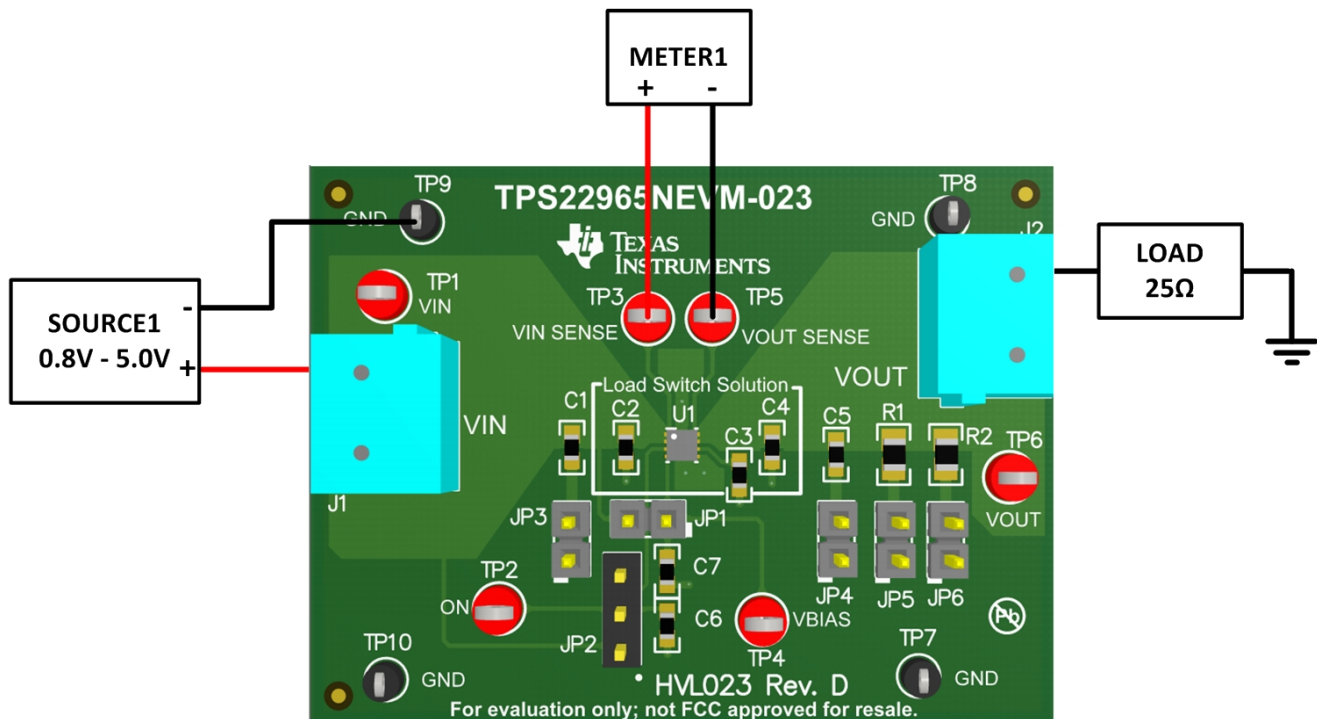

Figure 3. TPS22965EVM-023 Recommended R_{ON} Test Setup
1. Setup the EVM as shown in Figure 3.